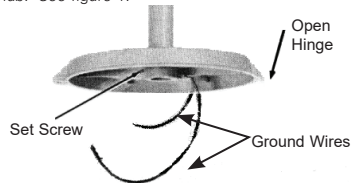

FIGURE 1
- Pendant, Stanchion and Quad mount: Securely thread onto the appropriate NPT size conduit. Tighten setscrew located in the conduit hub. See figure 1.